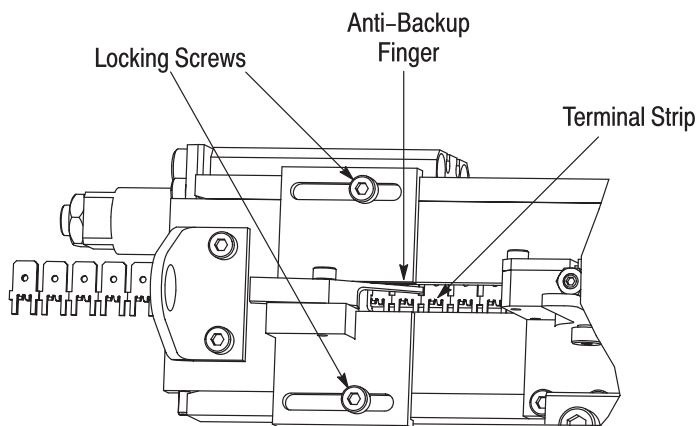

Figure 11
## 5.2. Feed Finger Forward Position Adjustment (See Figure 11)
### 5.3. Anti-Backup Finger Position Adjustment (See Figure 11)
### 5.4. Inserter Assembly Retract Position Adjustment (See Figure 11)
Verify that there is clearance between the tip of the inserter assembly and the top of the terminal within the dimension given in Figure 11. If there is not, proceed as follows:
5. Turn the insertion cylinder rod joint until there is clearance between the tip of the inserter assembly and the top of the terminal within the dimension given in Figure 11.